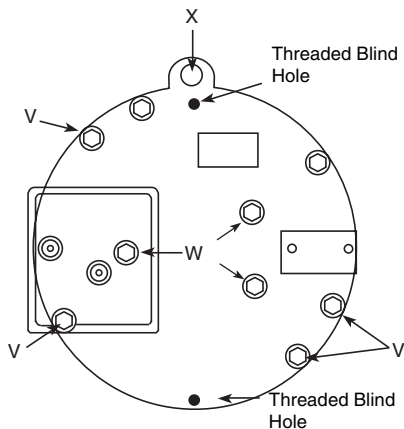

Figure 4: Rear of Magnet Case
3. Remove the six hex-head cap screws (V) from the outer edge of the magnet case cover.
4. Screw two hex-head cap screws (V) into the threaded blind holes in the magnet case cover. This will break loose the magnet case cover and coil core assembly from the magnet case. See Figure 4.
5. A lifting hole (X), located on the magnet case cover, aids in removing the coil assembly. Slide the coil and core assembly out of the magnet case.